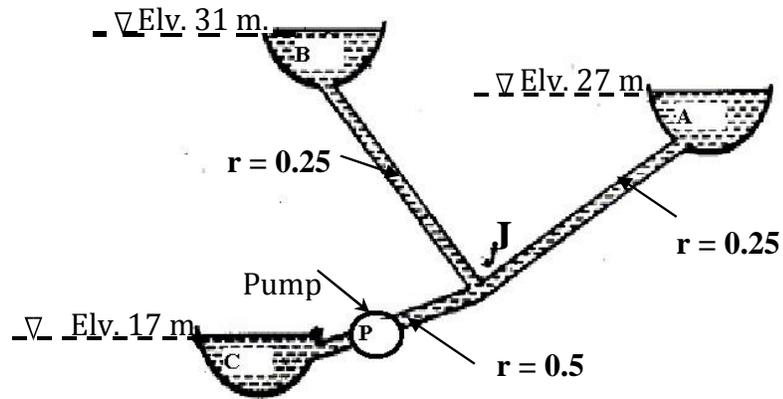

Fig.10
11. a- If the pump of Fig.10 is delivering  $8 \text{ m}^3/\text{sec}$  towards 'J' find the flow into tanks 'A' and 'B' and the energy at 'J'. b- Find the flow through the system when the pump is removed using Hardy Cross method, assuming as initial flows the values derived in 'a' and in the opposite direction. Attempt only one trial.